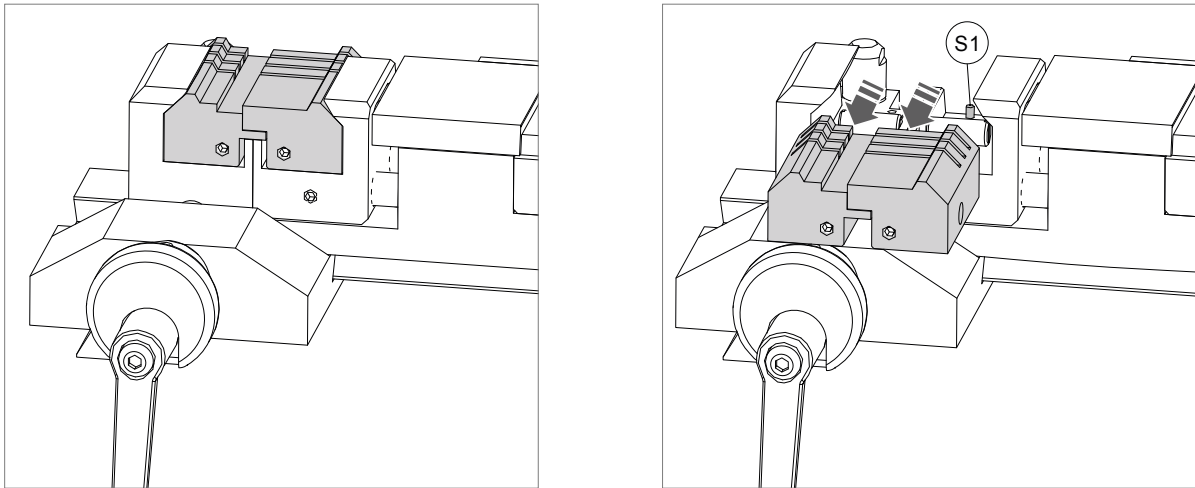

Fig. 21
- 2) Loosen the knob (S) by a couple of turns.
- 3) Use your fingers to pull the jaw to be removed out towards the operator (Fig. 21).